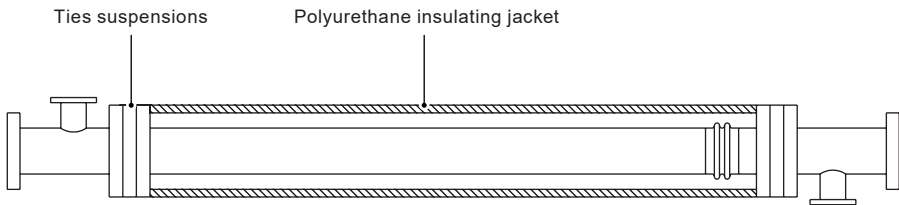

Fig. 11
- 4.10** To protect the expansion joint from external damage and optimise energy consumption, it is advisable to use a polyurethane insulating jacket as shown in Figure 11.